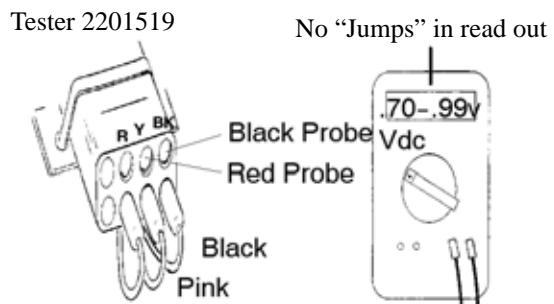

Figure 2 Red
- Set up the TPS Test Harness 2201519 according to the instructions. Verify that the 9 volt battery is new. Figure 2
- Connect the test leads connected as shown in Figure 2 and the meter set to the "vdc" scale, move the throttle open and closed slowly while reading the display. The voltage should increase smoothly with no "jumps" or decreases when the throttle is applied.